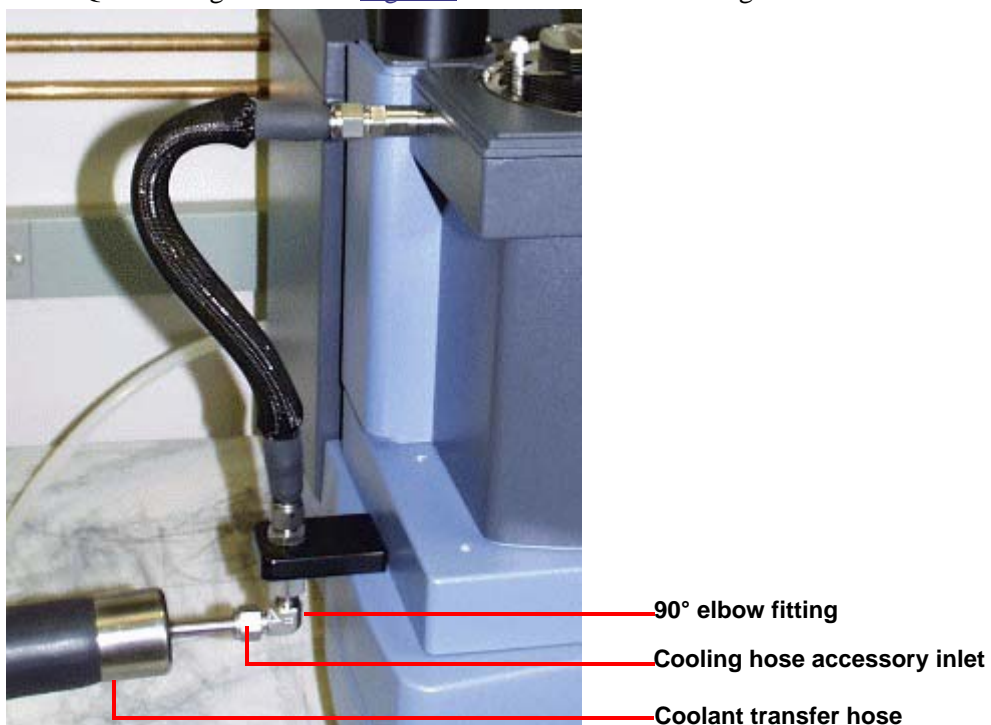
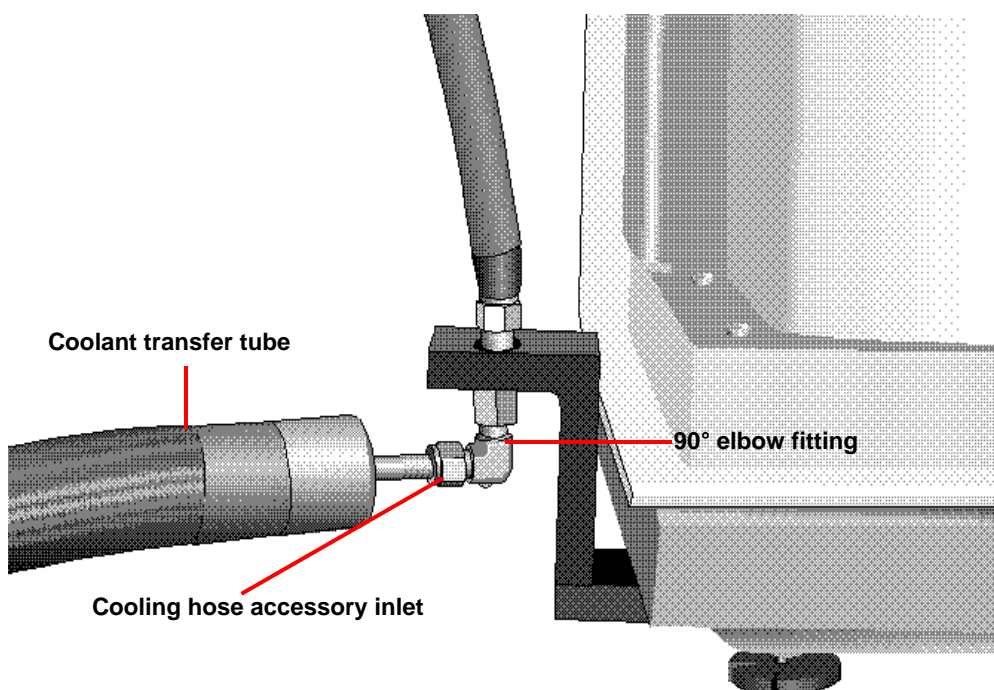

Figure 7 Connecting the coolant transfer tube to the DMA Q800.
Figure 8 Connecting the coolant transfer tube to the DMA 2980.
- 3 Remove the air cool line (if present) from the 90° elbow fitting on the DMA, and attach the coolant transfer hose to the DMA. See the figures below for the instrument you are using. See Figure 7 for the DMA Q800 configuration and Figure 8 for the DMA 2980 configuration. Make sure the fittings are tight.